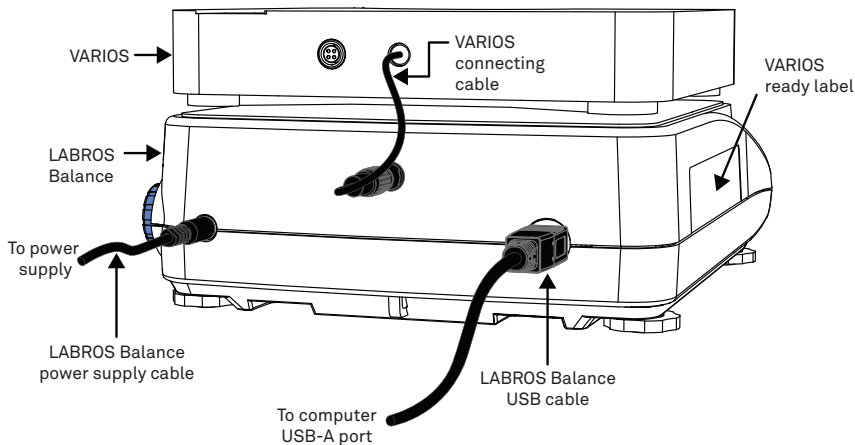
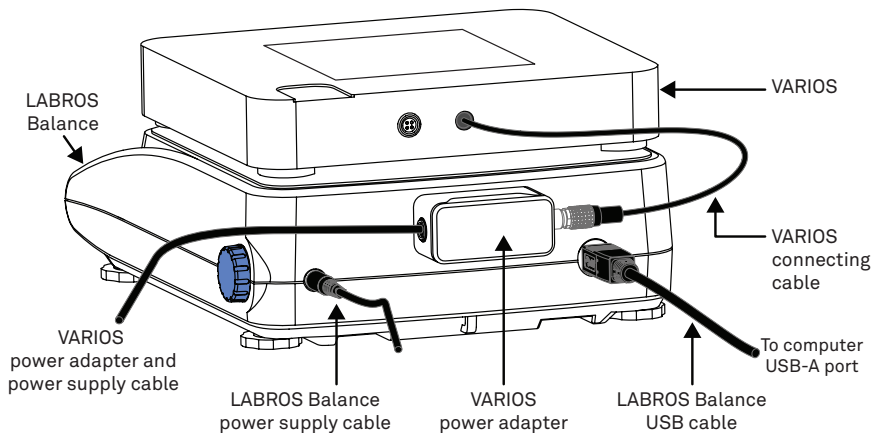

Figure 3 VARIOS Complete Set for thermal dryout configuration—back view
Figure 4 VARIOS Extension Set with power adapter for thermal dryout configuration back view
The VARIOS Extension Set does not include the LABROS Balance. If this set will be used with an existing HYPROP Balance (not VARIOS ready), make sure a USB cable and power adapter with cable is included (Figure 4).
Installation	<p>Install LABROS SoilView Software and METER USB Driver Download the LABROS SoilView Software Download.</p> <p>Run the <code>LABROS SoilView.exe</code> file and follow the installation instructions.</p> <p>NOTE: LABROS SoilView software can only be used with Microsoft Windows 10 or newer.</p> <p>If there is a problem executing the LABROS SoilView.exe, please download and install Microsoft .NET Framework 4.8.0 manually and have the current version of the Microsoft Windows installer.</p> <p>Click on the LABROS SoilView icon to open the program.</p> <p>Connect VARIOS to LABROS Balance (VARIOS ready) Insert the VARIOS connector cable into the back of the LABROS Balance (Figure 3).</p> <p>Connect VARIOS to a HYPROP Balance that is not VARIOS Ready Connect the VARIOS connector cable into the VARIOS power adapter, and plug the power adapter into the HYPROP Balance (Figure 4).</p> <p>When the VARIOS is powered, a blinking white light will appear on the front of the unit. See Table 10 for more information regarding the lights and meanings.</p>
4. Plug the VARIOS connection cable on the back of the VARIOS into the connector (Figure 3).
5. Plug the USB-B connector to the back of the Balance and the USB-A connector to the computer (Figure 3).
When using an existing Balance that is not VARIOS ready, the Extension Set should be used. The Extension Set includes a METER power supply that plugs into the back of the Balance. A power adapter is not included. Contact Customer Support for ordering information if a power adapter is needed. Follow the steps below to connect the VARIOS Extension Set (Figure 4).